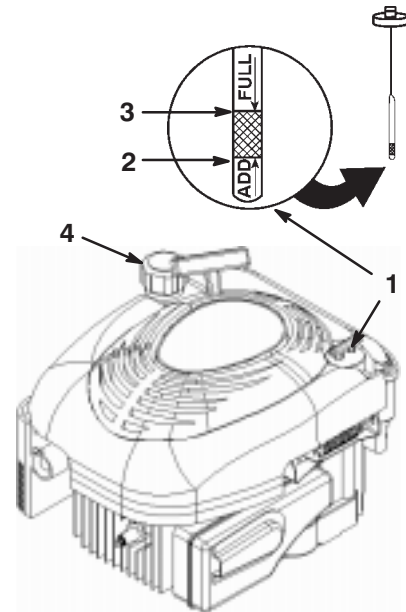

Figure 5
Before each use, ensure that the oil level is between the **Add** and the **Full** marks on the dipstick (Fig. 5).
2. Clean around the dipstick (Fig. 5).
6. Read the oil level on the dipstick (Fig. 5).
1. Clean around the fuel tank cap (Fig. 5).